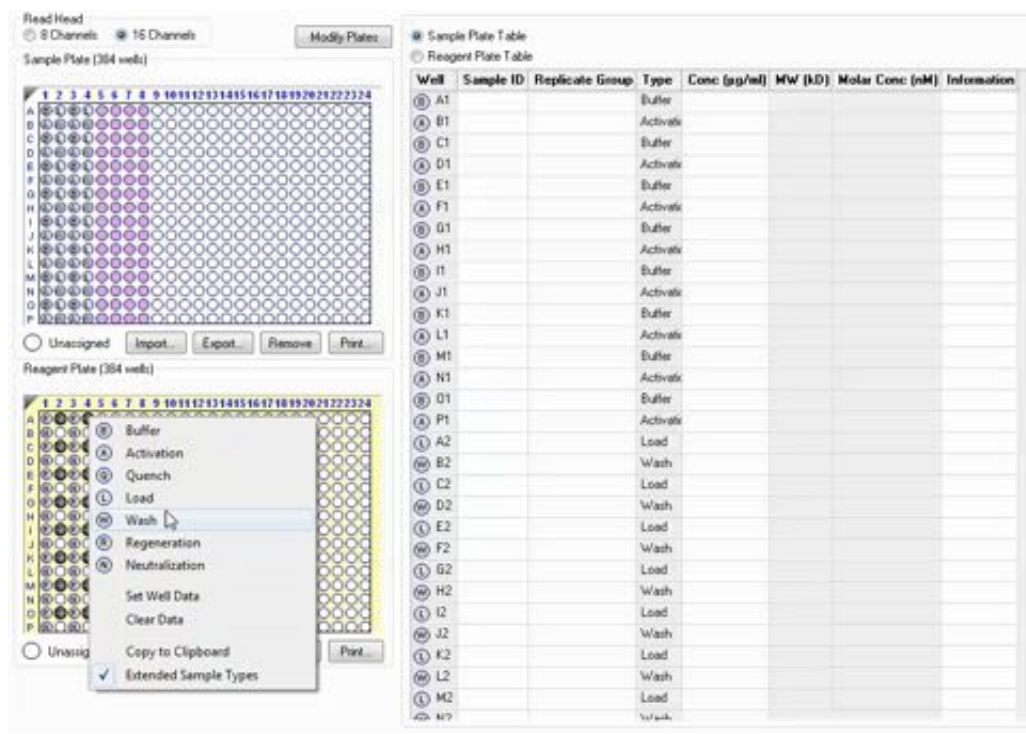

Figure 10-31: Defining Wells in the Reagent Plate
5. In the **Reagent Plate Map**, right-click a column to use and select **Buffer**, **Activation**, **Quench**, **Load**, **Wash**, or **Regeneration** from the shortcut menu (see Figure 10-31). The well designations appear in the **Reagent Plate Table**. Repeat this step to define other wells in the reagent plate.